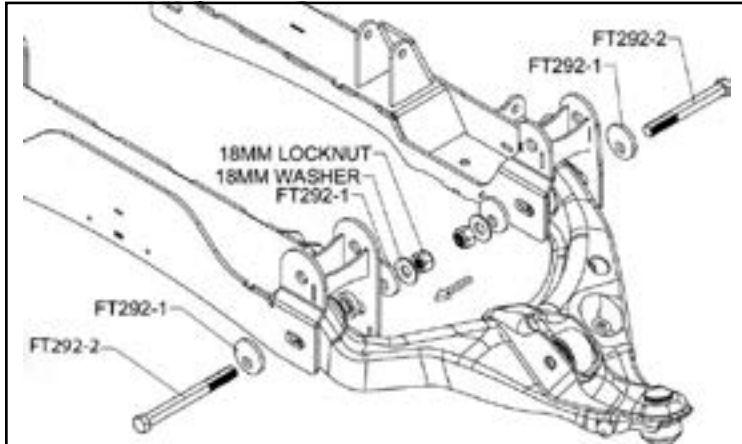

FIGURE 33 - STEP 32
32. Locate the Alignment cam kit (FT292). Locate the factory control arms. Install the lower control arms into the Fabtech crossmembers using the hardware in the cam kit (FT292). Using the provided thread lock torque the cam bolts to 250 ft-lbs after alignment. Torque all crossmember bolts to 240 ft-lbs. **SEE FIGURE 33**